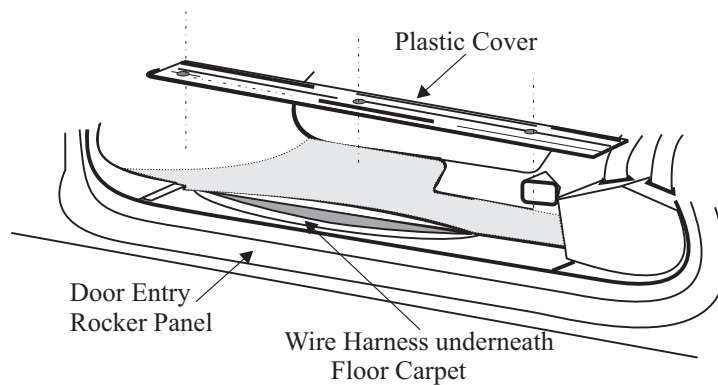

Figure E-5
9. Refer to Fig. E-5, remove the plastic door entry cover, move the wire harness out of the way for drilling.